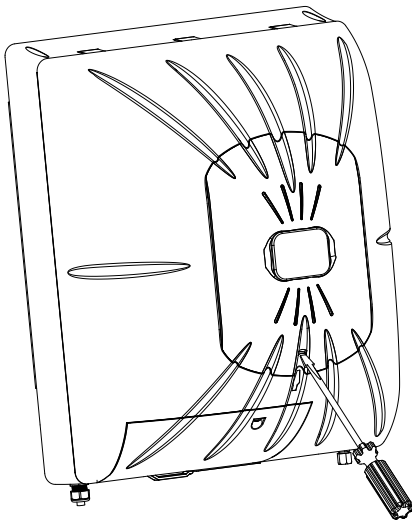
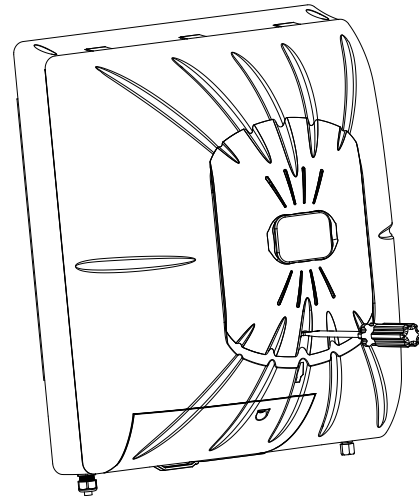

Figure 15
Figure 16
2. Insert a flathead screwdriver into the motor cover as shown in Figure 15. Tilt the screwdriver up as shown in Figure 16. This will release the motor cover and allow you to slide it off of the humidifier dome.